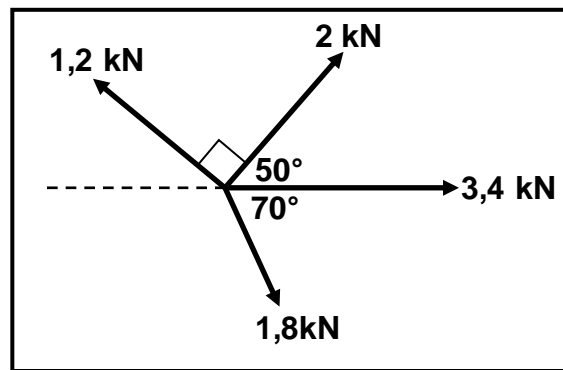

FIGURE 7.1
7.1 Four pulling forces of 1,2 kN, 2 kN, 3,4 kN and 1,8 kN are acting on the same point, as shown in FIGURE 7.1 below. Determine, by means of calculations, the magnitude and direction of the resultant of the system of forces.